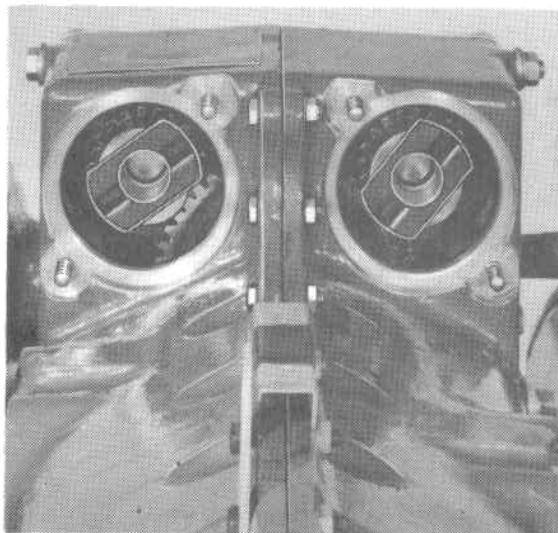
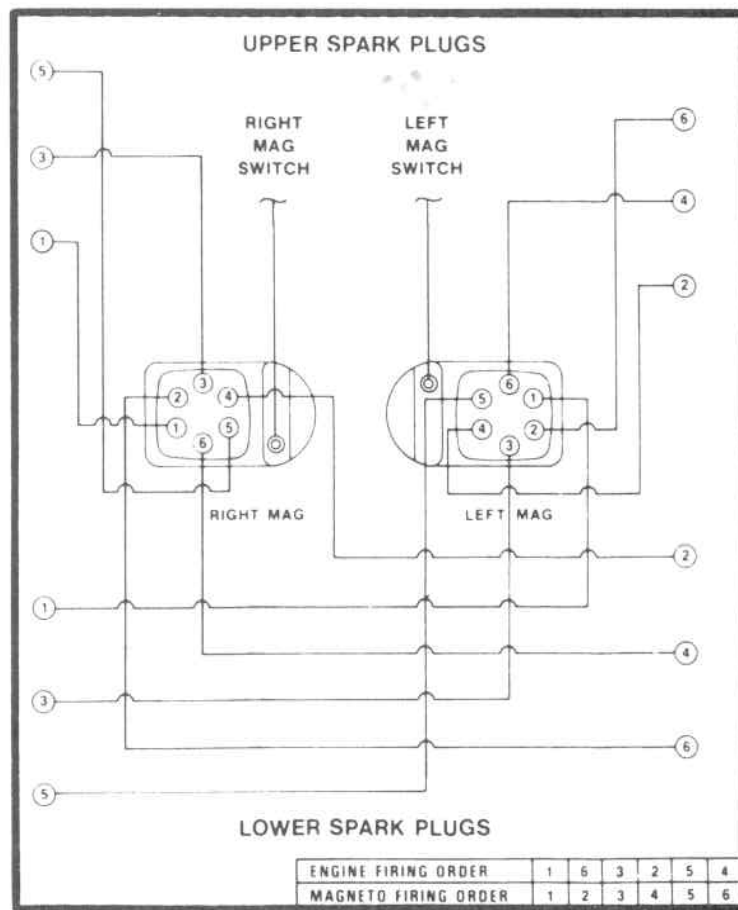

FIGURE 72-60-14. POSITION OF MAGNETO COUPLINGS.
FIGURE 72-60-17.
A. With engine in upright position, insert one pressed steel retainer (18) into each gear hub slot.
B. Cover each of four new rubber coupling bushings with a film of Molyshield grease and insert two bushings (21) into each retainer, rounded long edges first.
C. Turn the crankshaft to the No. 1 cylinder advance firing angle as described in Figure 72-60-17. Install sleeve (19) into magneto drive gear (20). Lubricate each gear (20) and insert into bushings (15). Observe the shaft ends from the rear as they are carefully pushed through the adapter oil seals to make sure the oil seal lips are not reversed or damaged. Mesh the magneto drive gears to the idler gear to the approximate position shown in Figure 72-60-14. These positions will vary slightly due to the difference in magnetos and gears.